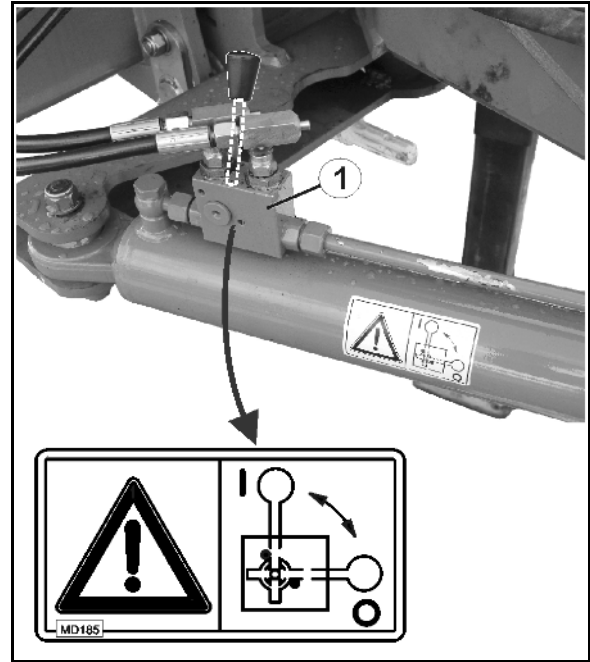

Fig. 66
4. Secure the steering draw bar into position 0 by closing the stop tap. (Fig. 66/1).